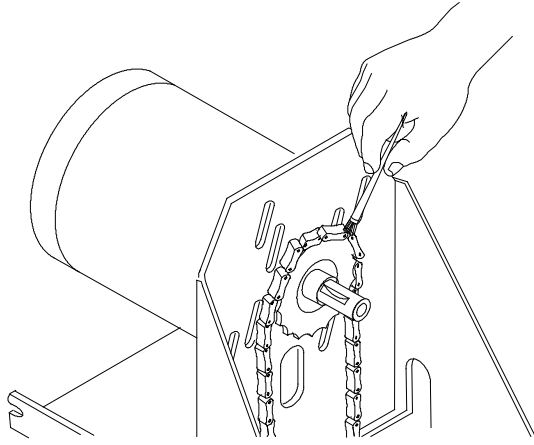

FIG. 13.
- Grease the drive chain. Adjust tension, if required (Figure 13).